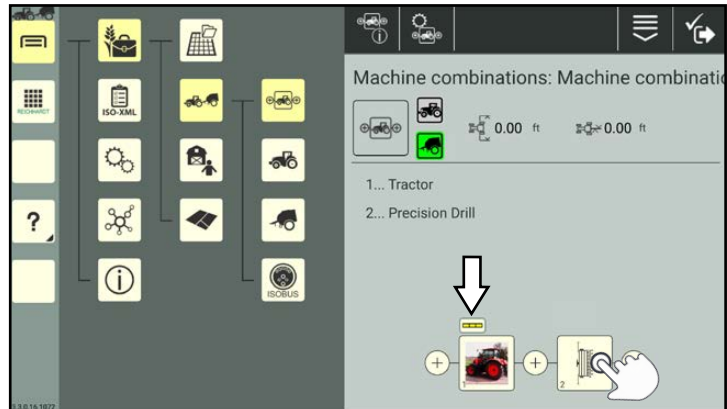

Fig. 321: Tapping the machine combination element to be deleted
1. Tap the machine combination element in the machine combination configuration (see Fig. 321).